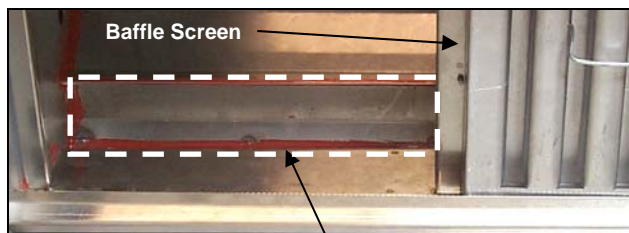

Fig. 1: The blank-off plates fit into this area of the hood and prevent excessive draft from being created at the back of electric fryers.
1. Disconnect the fryer from the electrical power supply, pull the fryer from the hood, and remove the baffle screens (Fig. 1) to expose the vent opening at the rear of the hood.